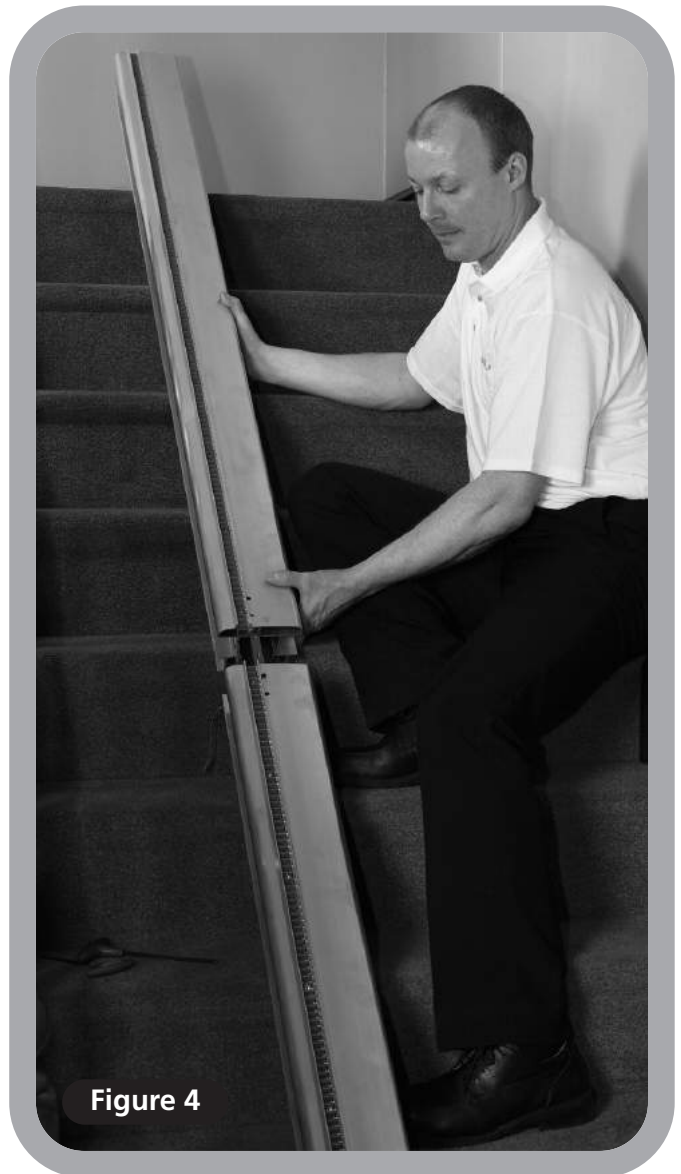

Figure 4
- 3** Position the top section of track adjacent to the bottom section of track (**Figure 4**).